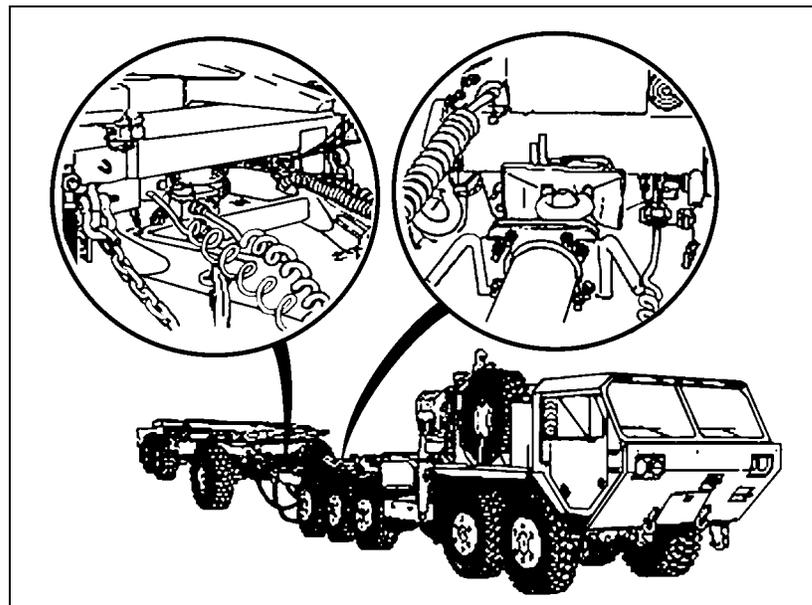

Figure 3-66. 12-24 Volt Receptacle
- ad. Remove cover from 7-pin receptacle on trailer and connect 12-volt cable on receptacle (see Figure 3-66).